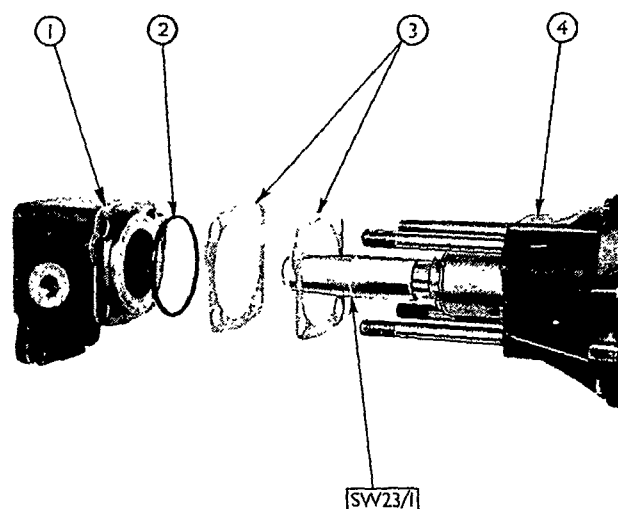

Figure 10
7. Install the oil seal protector sleeve Tool No. SW23/1 over the valve core spline and gently tap the valve housing away from the bearing housing and remove the bearing pre-load shims, see Figure 10.
12. Remove the "O" ring seal, Figure 10, from the valve housing base and renew.